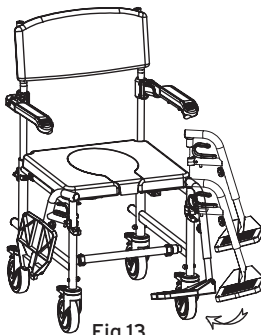

Fig.13
- Insert the footrests from the side and rotate them to the front until fastening into the holder (Fig.13);